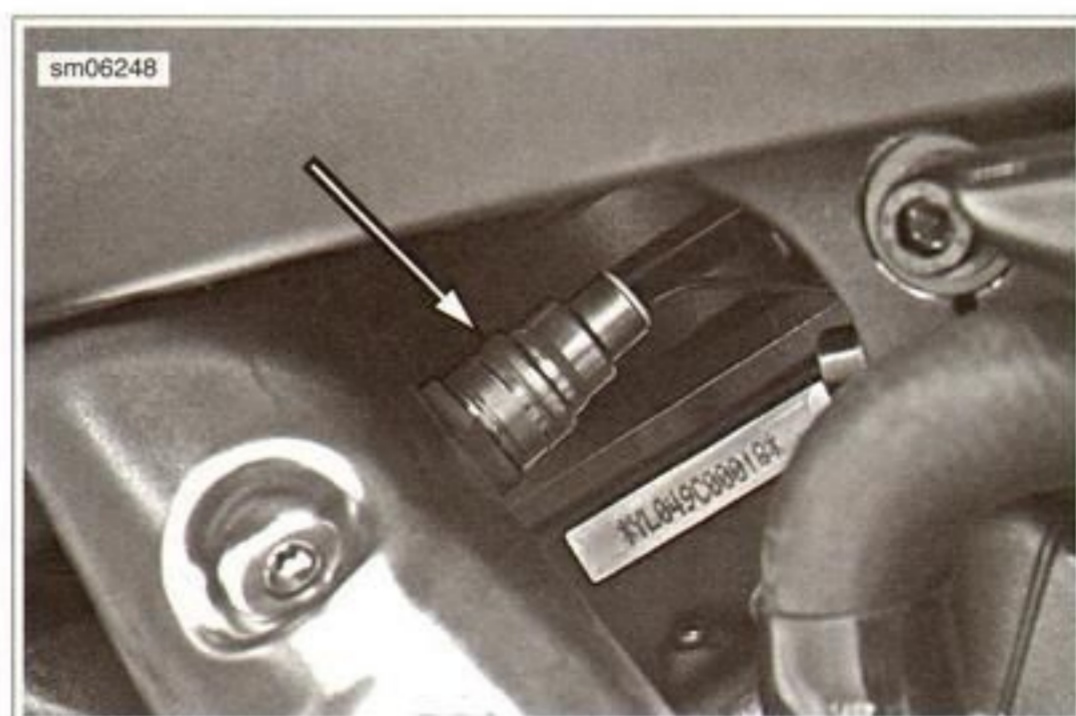

Figure 4-18. Rear O2 Sensor
- See Figure 4-18. Thread the sensor into exhaust header.